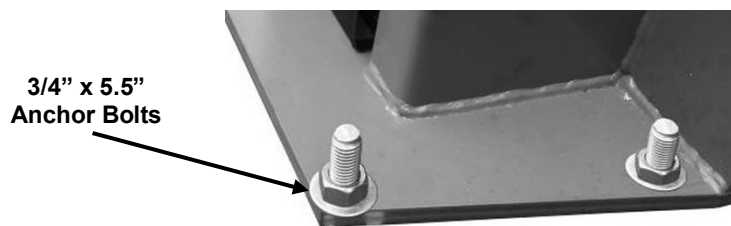

Fig. 4.
- A. Using the base plate on the column as a guide, drill each anchor hole into concrete using a rotary hammer drill and 3/4" concrete drill-bit. To assure full holding power, do not ream the hole or allow the drill to wobble. **(See Anchoring Details & Tips on Page 7) Fig. 4.**